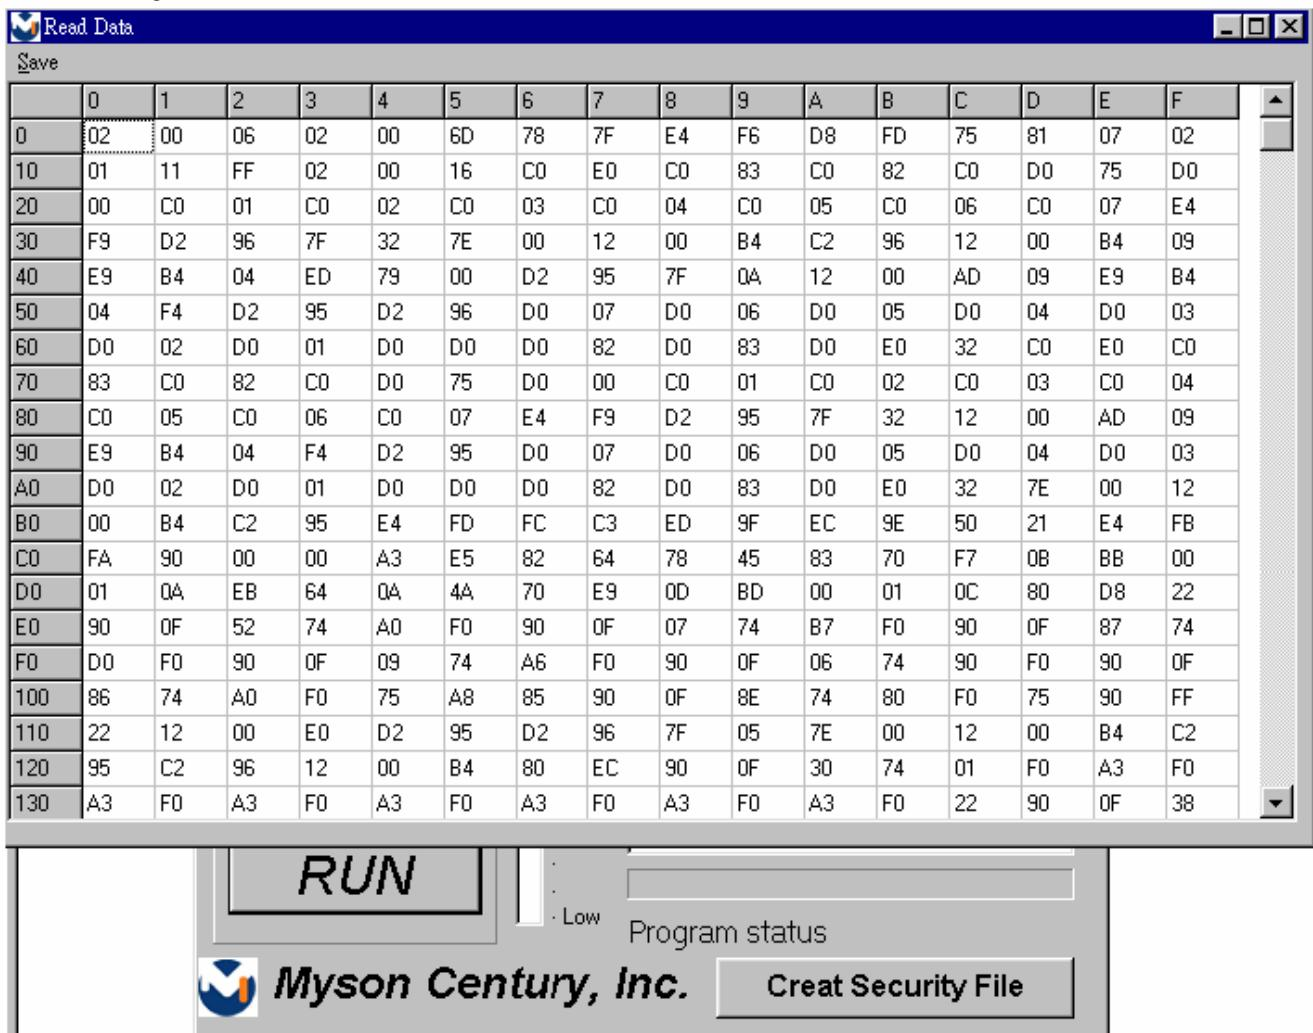

Fig 5.1
5.1 Only software ISP could read the MCU content, it is according to program the boot code while coding. The limitation is used for the security of customer's code. Select "Read Target" item, and press "RUN" button, the MCU content will show as Fig 5.1.